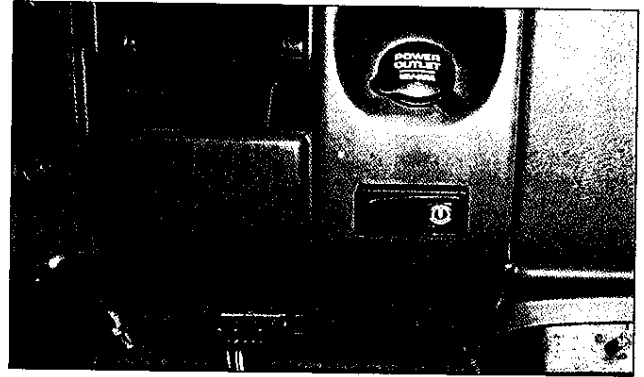

Fig. 20
- a. Locate the Dashboard Switch Template in Appendix 2. Use this template to locate and cut a rectangular hole in the dashboard for the exhaust brake On/Off rocker switch. The switch should be located in the dash panel, below the power accessory plug (Fig. 20). Drill holes in the dash panel as indicated on the template and saw or file the edges to the template dimensions.